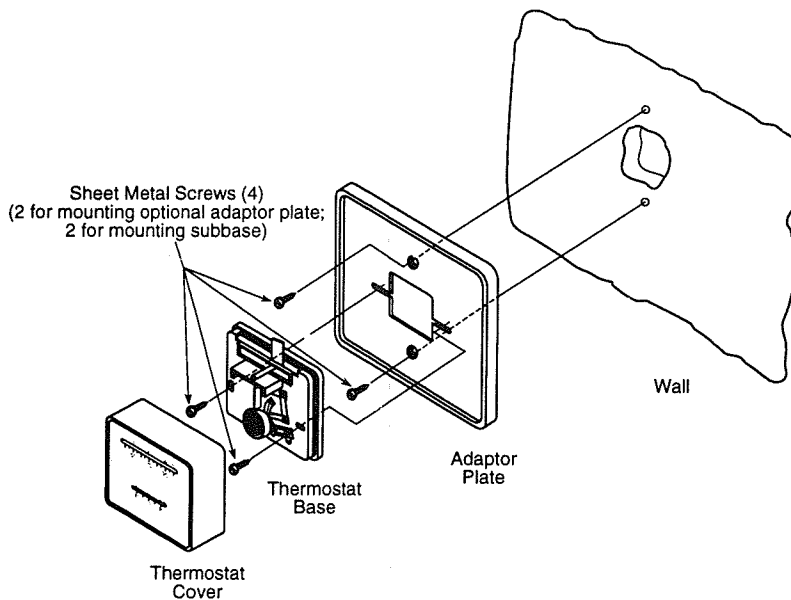

Figure 1. Installing the thermostat on the wall
2. **Wire and Mount Thermostat Base:** Gently pull the cover off the thermostat base. Connect wires to the appropriate terminals on the back of the thermostat base. Gently push excess wire back into the wall opening and plug hole with a fire-resistant material, such as fiberglass insulation, to prevent drafts from affecting thermostat operation. Mount the base on the wall or adaptor plate using the screws provided (see fig. 1).